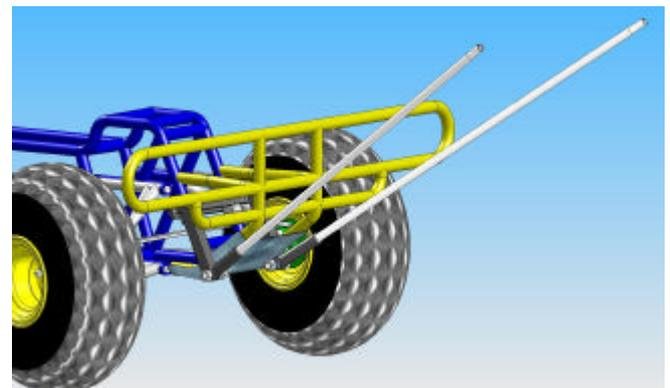

Figure 7: Antenna in Fender Front bushes
- Fit the non tapered end of each Antenna into the Fender Front bushes (Figure 7).